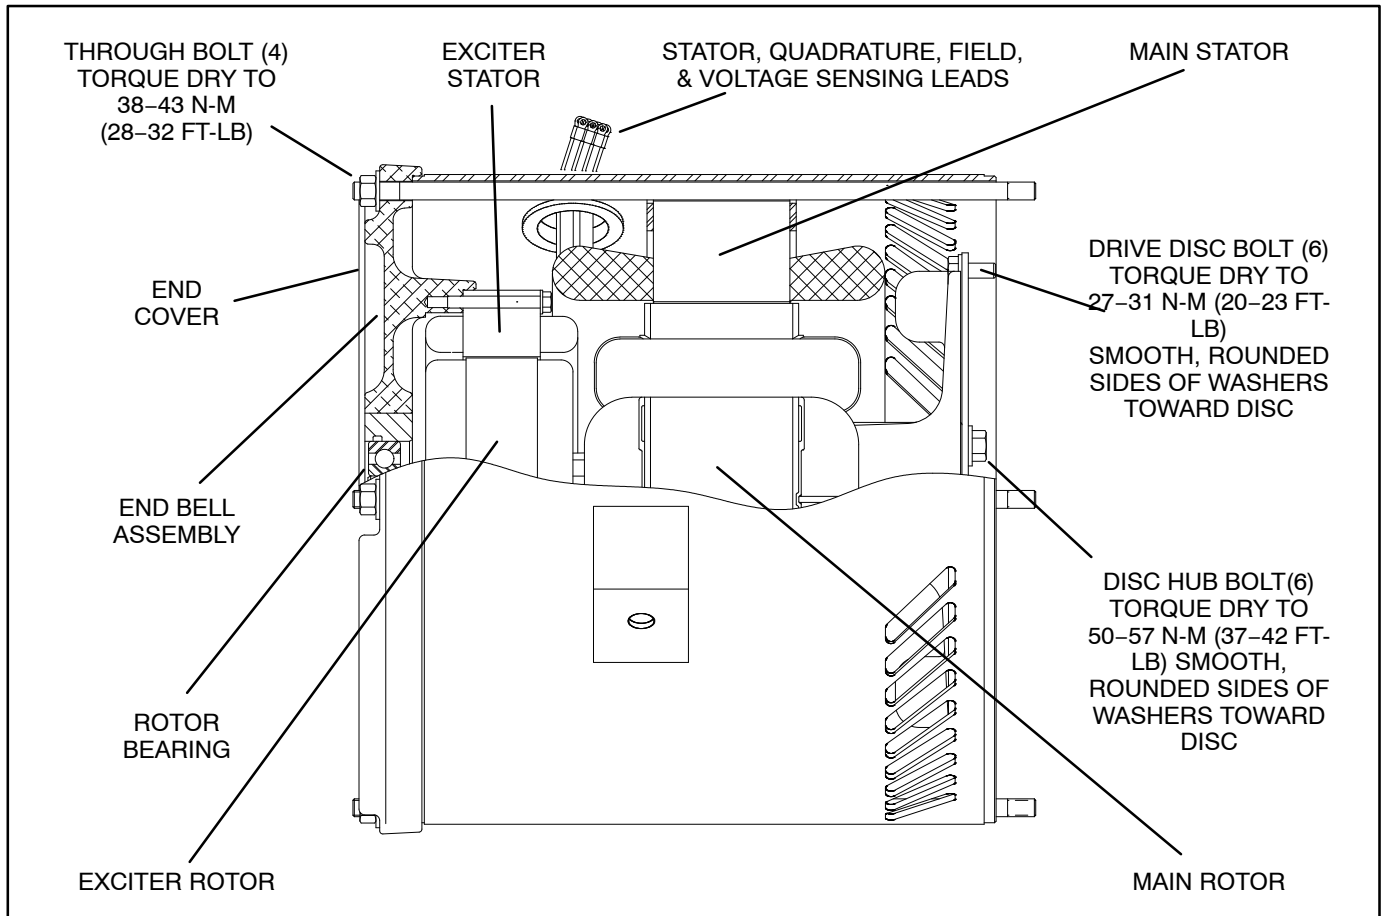

FIGURE 17. GENERATOR ASSEMBLY
These are 4-pole, rotating-field, brushless, single-bearing, electronically regulated generators (Figure 17). See BASICS at the end of this section for a description of generator operation.
8. Cinch a strap around the rotor and remove the six disc-to-flywheel bolts (Figure 17). When removed, cradle the rotor horizontally in wooden blocks to prevent damage to windings, laminations and drive disc.
2. Torque the six disc-to-hub bolts (Figure 17) to 50–57 N-m (37–42 lb-ft). Make sure that:
3. Torque the six disc-to-flywheel bolts (Figure 17) to 27–31 N-m (20–23 lb-ft). Make sure the rounded edges of the washers are on the disc side.